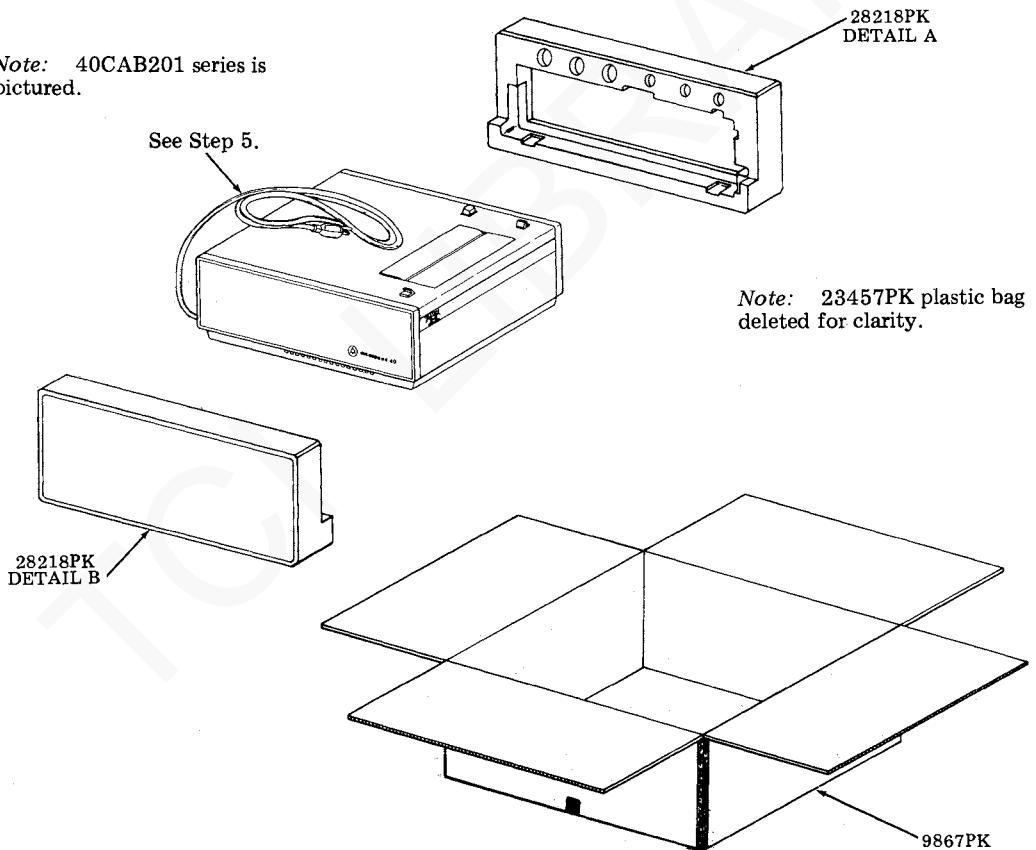

Fig. 24
- Step 3. Position a plastic 28218PK Detail A on right side of cabinet. (See Fig. 24).
- Step 4. Position a plastic 28218PK Detail B on left side of cabinet. (See Fig. 24).
- Step 5. Coil cable on top of cabinet and position prepacked cabinet in shipping container. (See Fig. 24).